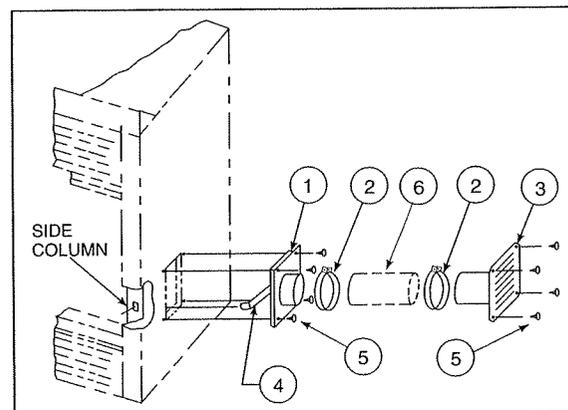

Figure 17
2. Installing the damper. Insert the control arm through the rectangular opening in the side of the fireplace. The notches on the control arm should be placed downward. **The hinge on the damper should face toward the front of the fireplace.** If the hinge and the control arm are not positioned in this manner, the damper will not function correctly. Figure 17 demonstrates the correct order in which the air kit assembly should take place.